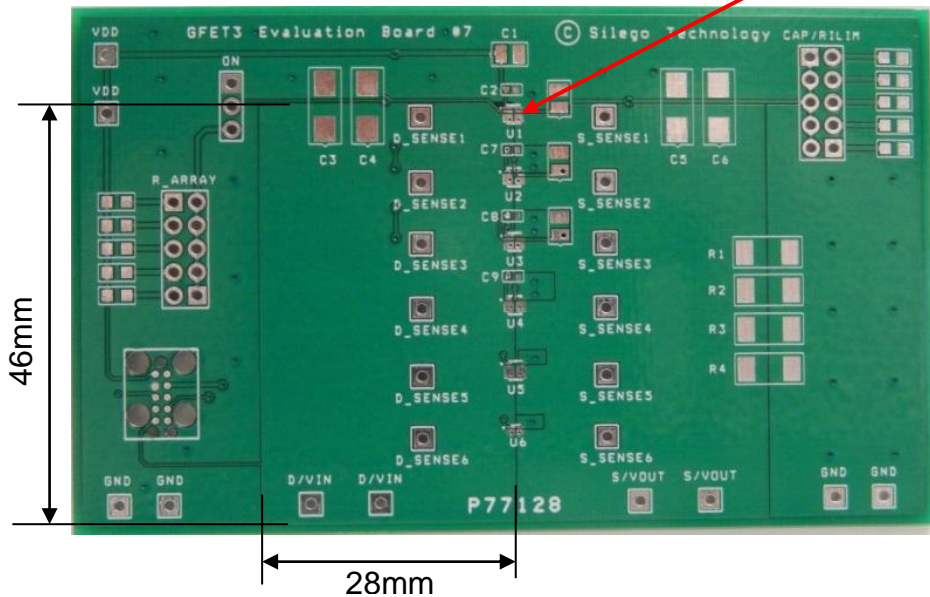

Figure 3. SLG59M1545V Evaluation Test Board
2.3. The D/VIN and S/VOUT pins carry significant current. Please note how the D/VIN and S/VOUT pads are placed directly on the power planes in Figure 3, which minimizes the Rds(ON) associated with long, narrow traces. The D/VIN, S/VOUT and GND pins dissipate most of the heat generated during high-load current condition. The layout shown in Figure 3 is illustrating a proper solution for heat to transfer as efficiently as possible out of the device.